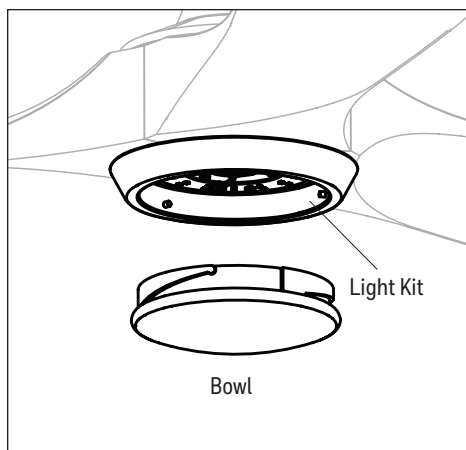

Figure 5.6
6. Attach the bowl to the light kit by twisting the bowl firmly in a clockwise direction until it is secure (Figure 5.6).